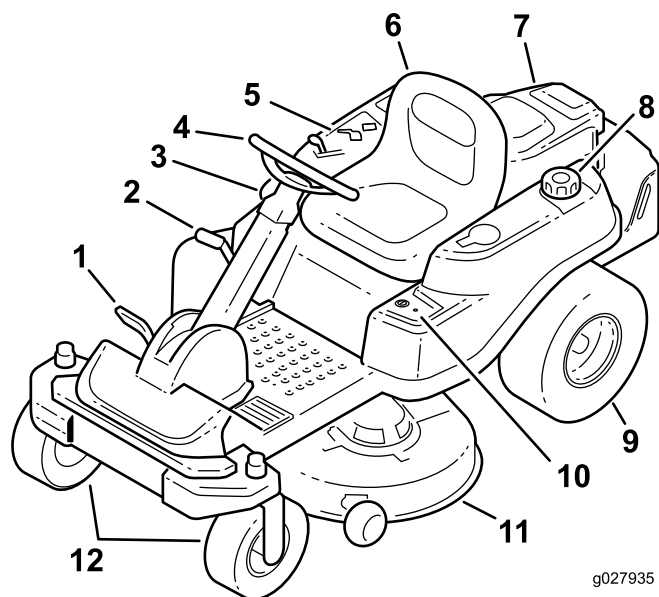
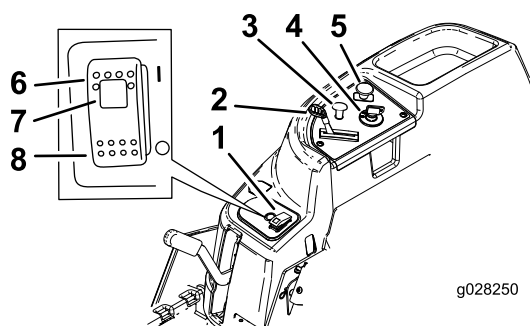

Figure 4
Figure 5
Become familiar with all controls in Figure 4 and Figure 5 before you start the engine and operate the machine.
Use the choke to start a cold engine. Pull the choke knob up to engage it. Push the choke knob down to disengage it (Figure 5).
The throttle controls the engine speed, and it has a continuous-variable setting from the SLOW to FAST position (Figure 5).
The blade-control switch (PTO) engages and disengages power to the mower blades (Figure 5).
- Pressing the Smart Park™ switch to the ON position (Figure 5).